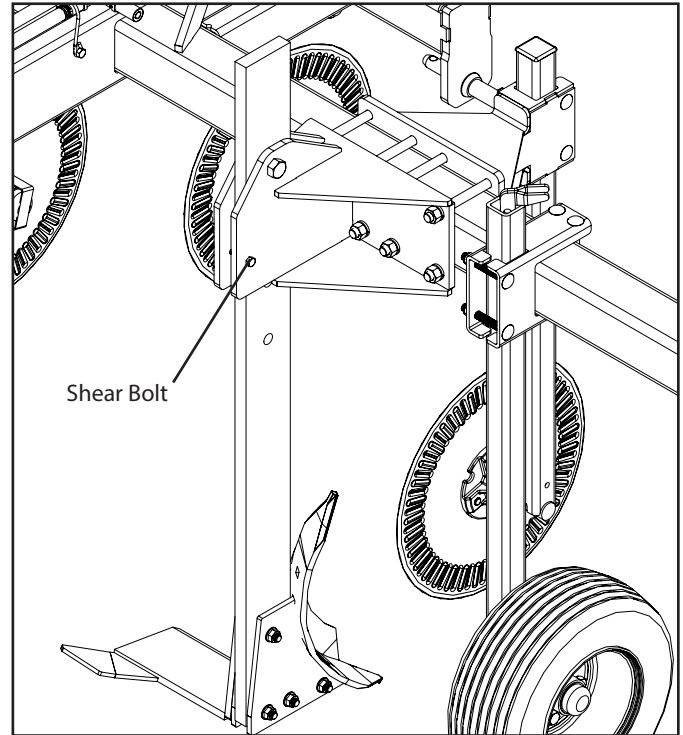

Figure 10: Shear Bolt
- NOTE: If equipped, there is a shear bolt (Figure 10) on the shovel shanks that will break (to prevent damage to the machine by allowing the shovel to “breakaway”) if there is an obstacle encountered that cannot be moved by the shovel.